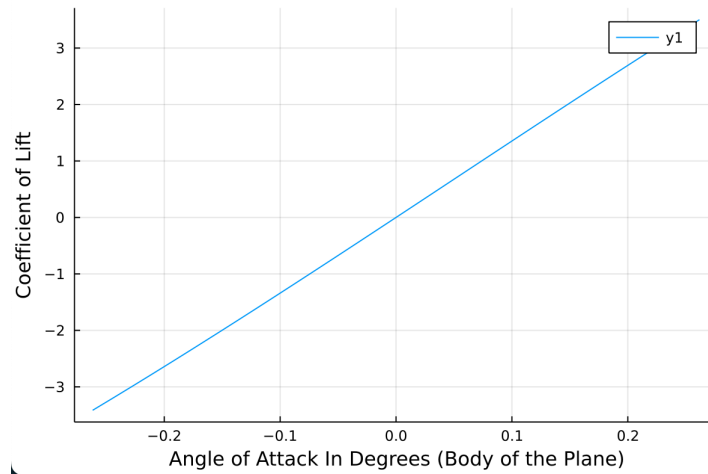

Figure 15: Lift vs. Angle of Attack (Radians)
- Figure 15 shows that as the angle of attack changes, the coefficient of lift changes in a linear manner. More specifically, the coefficient of lift changes with a slope of around 2π . Although 2π is the ideal slope of a lift polar with respect to angle of attack, the slope is usually a little lower than this value.